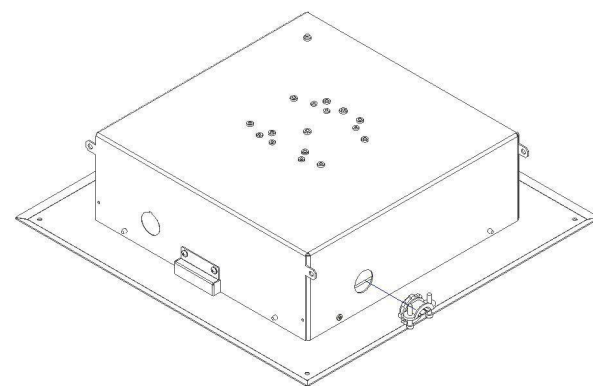

Figure 1 - Cable clamp installation.
Step 1 – Remove the metal hole cover(s) and install clamp connector(s). Use two clamp connectors if both power and data lines are to be installed. If only a data line is required (when using power over Ethernet), only one clamp connector will be required (Reference Figure 1).